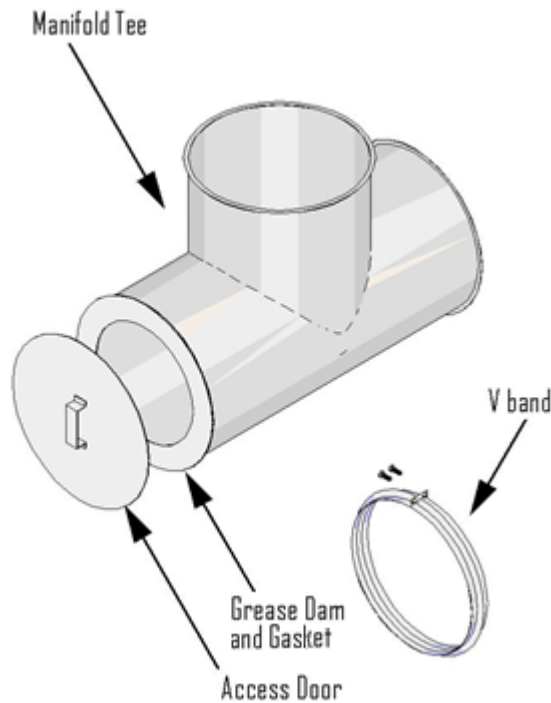

Figure 2. Access Door Assembly
- B. ACCESS DOOR – When required, use the duct manufacturer's manifold tee and access door (tee cap) assembly (see Figure 2). Apply a 1/4 in. continuous bead of sealant (Item 2A) to the flange of the tee on the side where access door is to be located. Center the supplied grease dam over the opening of the tee. Verify that the grease dam is sealed to the tee flange by applying pressure. Remove excess sealant (Item